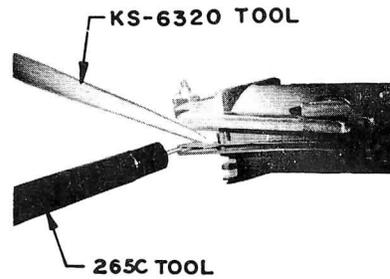

Fig. 3 - Cleaning Contacts, UA-112 Relay
- (b) Clean contacts with a 265C tool (contact burnisher holder) having a clean 266E tool (contact burnisher blade). Use a KS-6320 orange stick to hold contacts closed while cleaning. (See Fig. 3.)